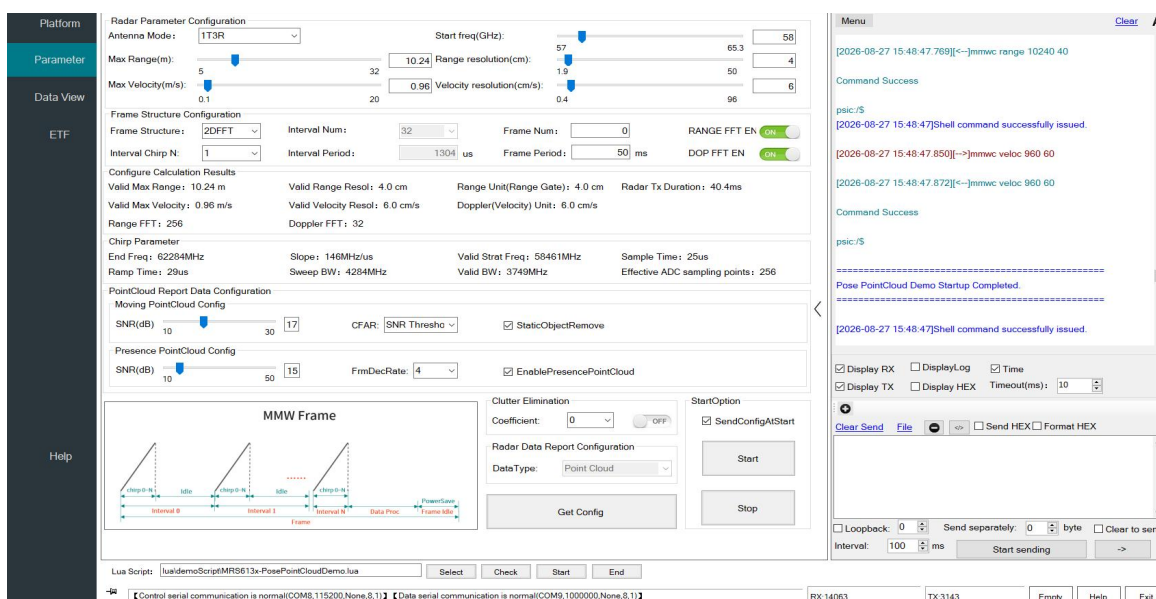

Figure 2-16 Presence Point Cloud Default Configuration Page
3. This display uses a fixed one-click radar configuration that cannot be modified. The configuration is shown in Figure 2-16.